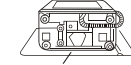

Figure 2
2. Put soft items on the ground. Lean the machine down gently with the front surface facing the ground. Take off the drain hose from the cabinet. Take the hose out of the fixing groove. (See to Figure 2).